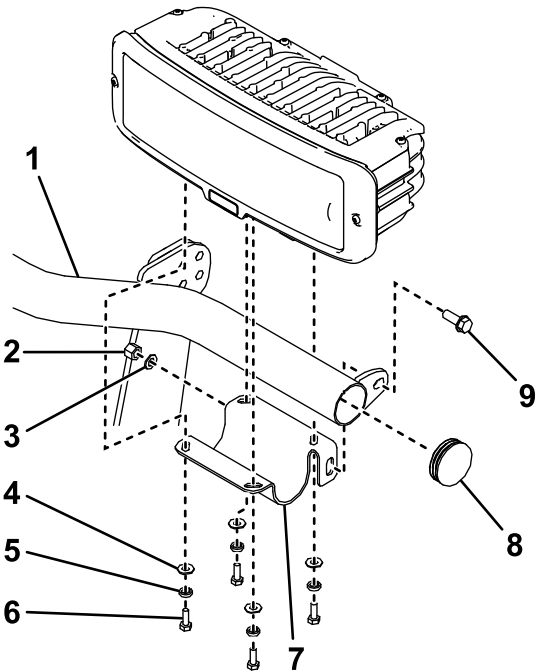

Figure 15
2. Ensure that the end caps are installed on the ends of the light bar (Figure 15).
3. Secure the left headlight-bracket to the light bar using a flange-head bolt (3/8 x 1 inch), a flat washer, and a nylon locknut (Figure 15).
4. Secure the left headlight to the headlight bracket using 4 bolts (1/4 inch), split lock washers, and flat washers (Figure 15).